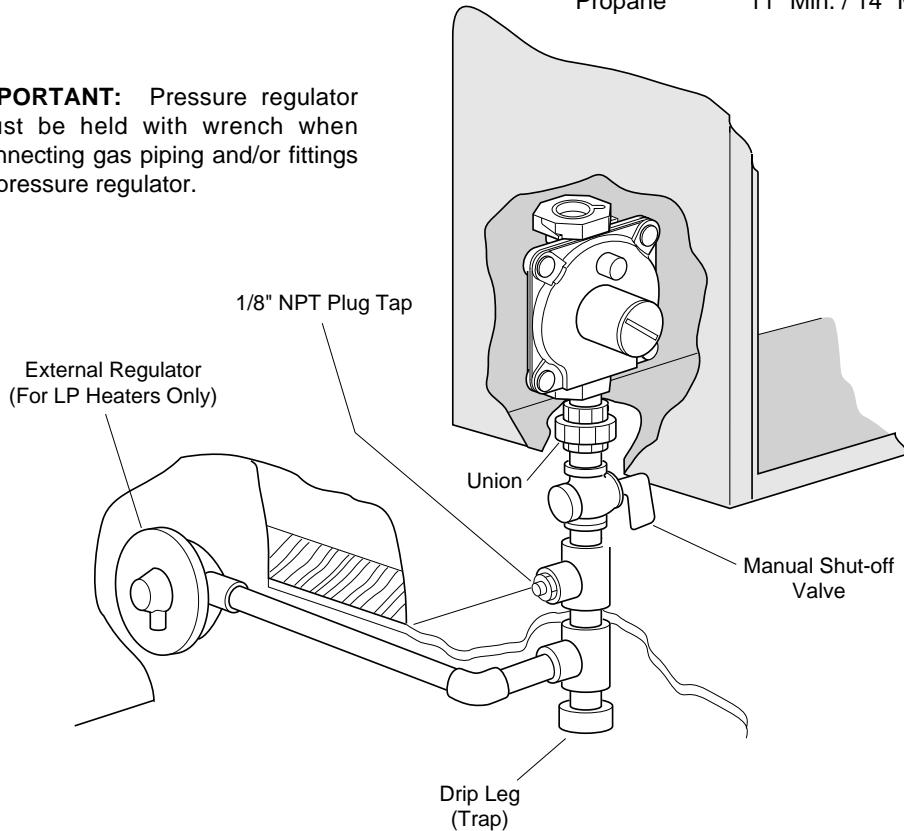

Figure 8. Gas Connection
The heater is operated by the control knob located on the top of the heater. Be sure that the service supply valve is open and that the manual shut-off valve (Figure 8, page 9) is fully open. Depressing the control knob and turning it to the "PILOT" position will direct gas to the pilot and provide a spark to light the pilot. The control knob must be held down (at least 10 seconds) until the thermocouple is heated enough to hold the valve open. Once the pilot flame is established, the control knob can be released and turned to any of the operating position settings. The control knob can also be left in the
1. Remove the front panel of the heater by removing the two screws near the bottom corners and pulling the bottom of the panel forward and then downward. Turn heater control knob to the "OFF" position. Open the manual shut-off valve (see Figure 8, page 9). Apply solution of liquid detergent